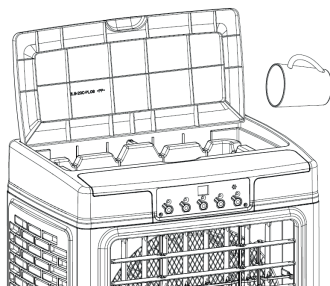

Fig.2
- 4 - Add water from the water inlet on the front cabinet.(shown as fig.2)
- 1 - **Water level must be between the MIN and MAX line.(shown as fig.2)**